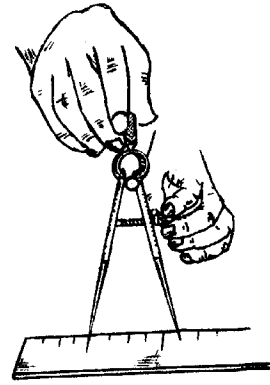

FIG. 17 SETTING DIVIDERS
2. To set the dividers, hold them in the left hand and place the point of one leg in a graduation on the steel rule. By turning the knurled adjusting nut with the thumb and forefinger of the right hand, adjust the divider until the point of the other leg rests on the graduation of the steel rule, which gives the required measurement. (Fig.17).